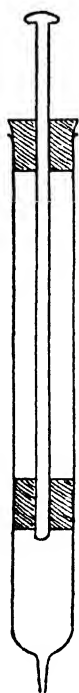

FIG. 53. wave of the report.
**M**AKE a model glass syringe as follows:— Take a *stout* test tube, heat the closed end at the tip, draw out with a piece of wire when hot, and thus make a small hole. Find a soft cork which fits the tube loosely, i.e. would go right in if forced. Bore this cork and pass a piece of glass rod through tightly. Fasten the rod and cork together by liquid glue, seccotine, etc., and then heat and flatten the end of the rod like a button. Fig. 53 shows the model syringe. Grease the cork piston with vaseline, and work it up and down a few times before using in water. On lifting the piston when water surrounds the only opening, air pressure forces some water in through the hole. The return of the piston squirts water out through the hole.